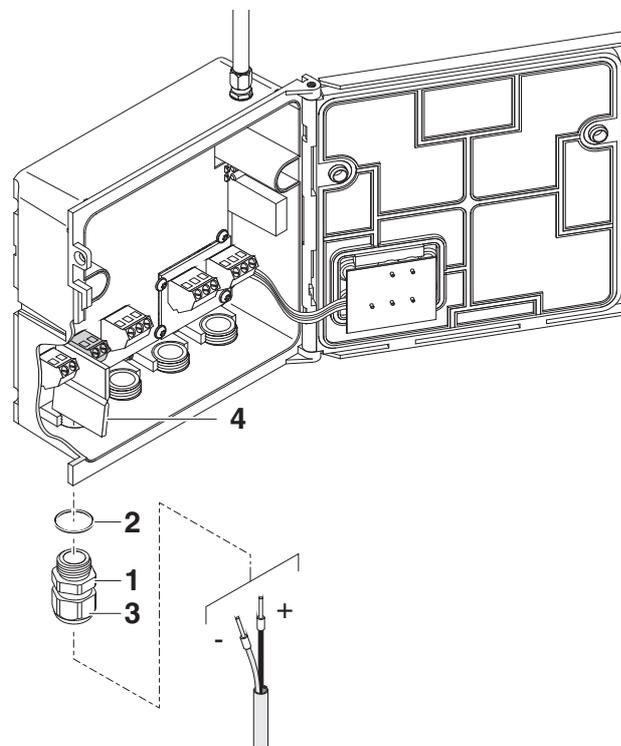

Fig. 3-15 Inserting the 24 V DC line.
| 5 | Screw a cable gland (pos. 1 in Fig. 3-15) with sealing ring (pos. 2) into the enclosure below the 24 V DC connection.           |